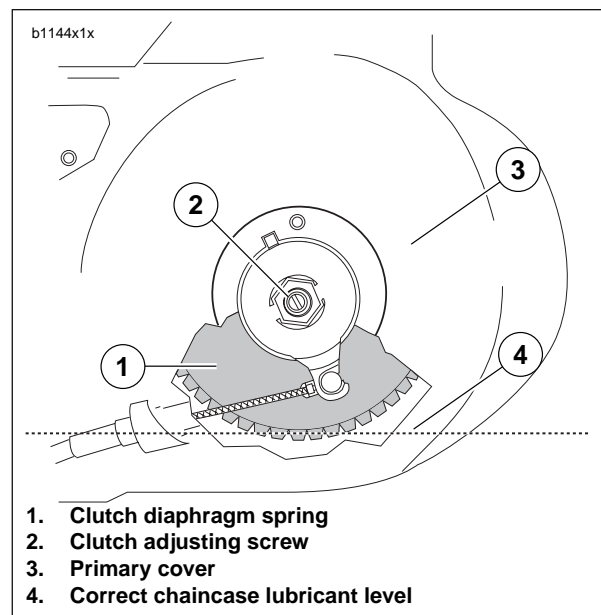

Figure 1-22. Fluid Level
7. See Figure 1-22. Add FORMULA+ TRANSMISSION AND PRIMARY CHAINCASE LUBRICANT (Part No. 99851-05) (quart size) as required until fluid level (4) is even with bottom of clutch diaphragm spring (1).